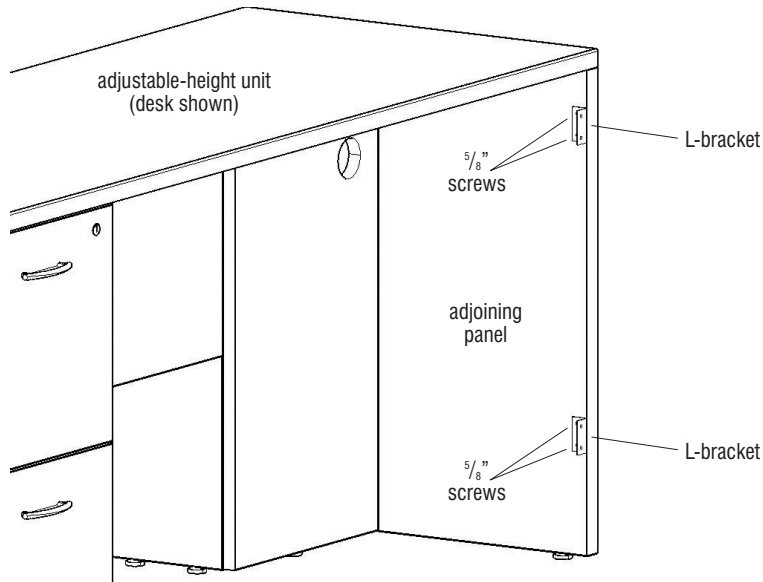

Figure 1
1. Install two L-brackets flush with the front edge on the unit the adjustable-height bridge or return is adjoining to as illustrated. Secure the L-brackets to the adjoining panel using two 5/8" screws per bracket (Figure 1).